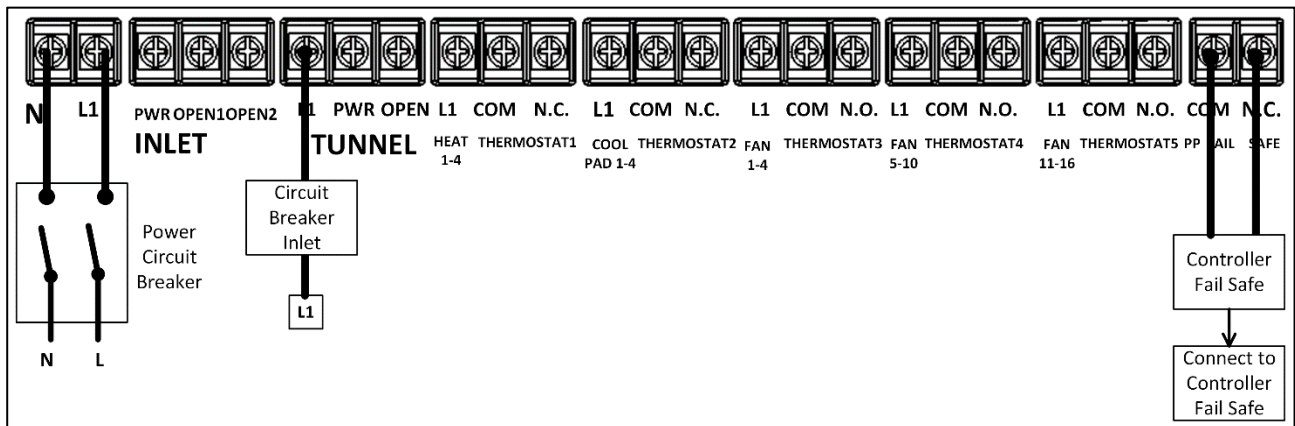

Figure 5: Relay Connections to Controller – Section 3
2. Connect the heater to Relays K24 and K25, fans to Relays K16 through K23, and cool pads to K26 and K27. Figure 14 displays the relay numbers. See Figure 5.
- Figure 5: Relay Connections to Controller – Section 3